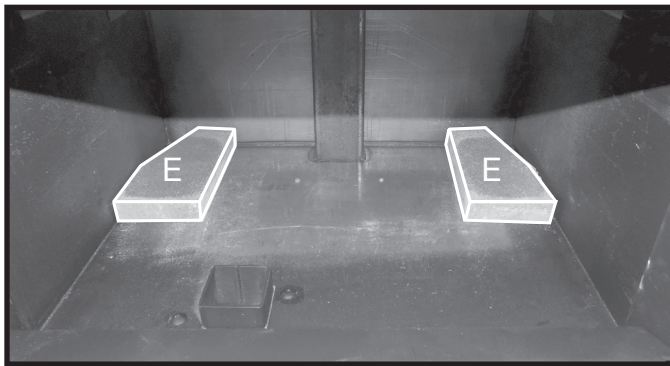
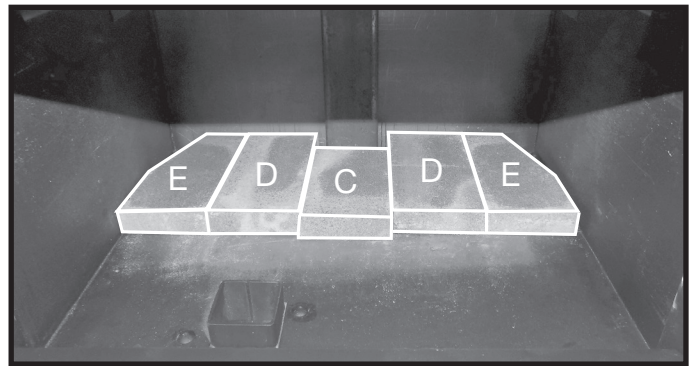

Figure 14: Corner floor bricks.
Figure 15: Back row of bricks.
1. Begin by placing the 2 "E" bricks into the rear corners of the firebox floor (Figure 14). These trimmed bricks will fit around the two bolts coming up in the back corners. Continue by placing 2 "D" bricks beside the "E" bricks and the short "C" brick in the center up against the baffle tube (Figure 15). Eliminate any gaps between the bricks by shifting the bricks in toward the center of the firebox.